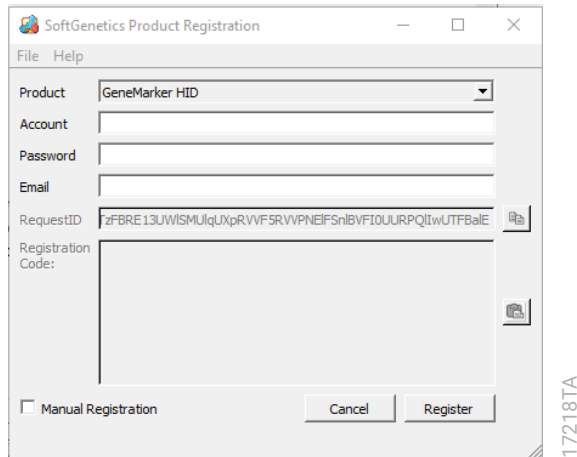

Figure 34. 'SoftGenetics Product Registration' window.
3. Select **GeneMarker HID** from the 'Register Product Name' drop-down list of the 'SoftGenetics Product Registration' window (Figure 34). The Request Code is automatically generated by the software.